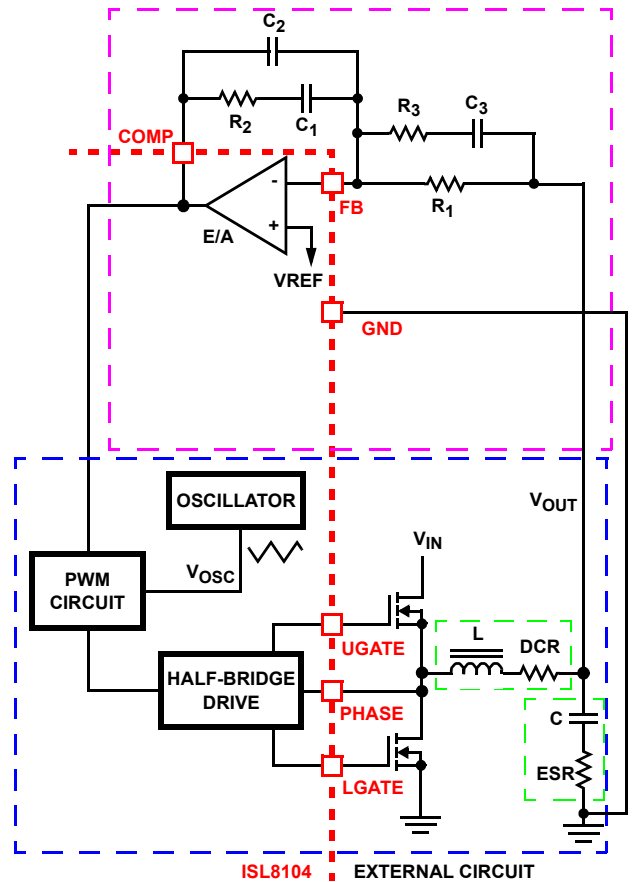

FIGURE 7. VOLTAGE-MODE BUCK CONVERTER COMPENSATION DESIGN
Figure 7 highlights the voltage-mode control loop for a synchronous-rectified buck converter. The output voltage is regulated to the reference voltage level. The error amplifier output is compared with the oscillator triangle wave to provide a pulse-width modulated wave with an amplitude of V_{IN} at the PHASE node. The PWM wave is smoothed by the output filter. The output filter capacitor bank's equivalent series resistance is represented by the series resistor ESR.
1. Select a value for R_1 (1k Ω to 10k Ω , typically). Calculate value for R_2 for desired converter bandwidth (F_0). If setting the output voltage to be equal to the reference set voltage as shown in Figure 7, the design procedure can be followed as presented. As the ISL8104 supports 100%